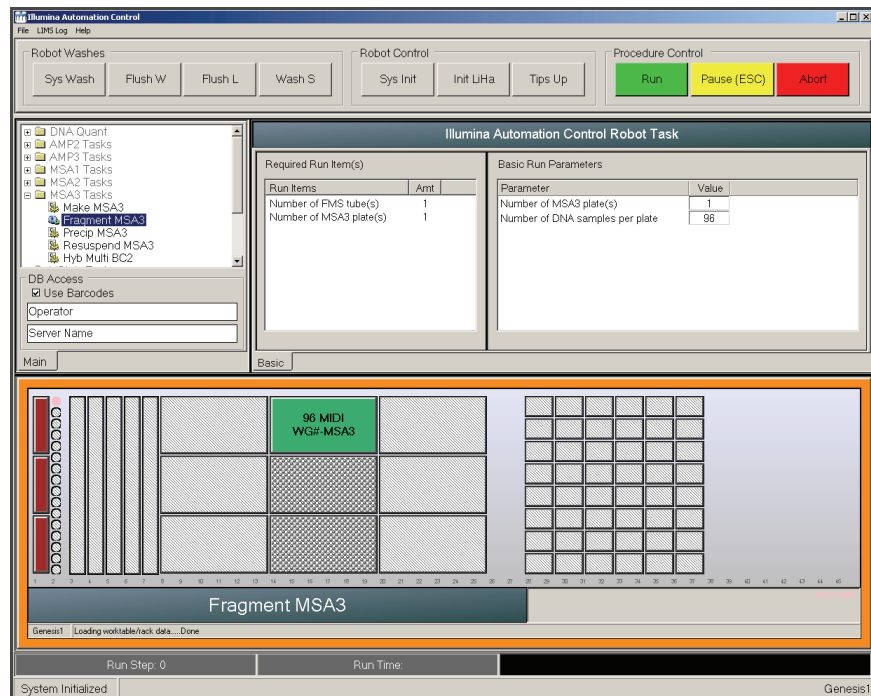

Figure 120 Fragment MSA3 Screen
- Place the MSA3 plate on the robot bed according to the bed map (Figure 120). Remove the plate seal. If you have not already done so, remove the cap mat from the plate.